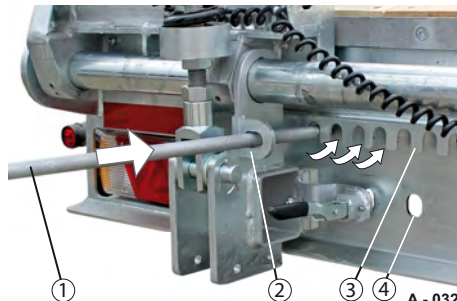

Fig. 84 Setting track width
- Insert the operating pole (Fig. 84/1) through the eye (Fig. 84/2).
- Using the operating pole, grip one notch (Fig. 84/3) after another and slide the ramp to the required position. Make sure that the spring lever can be secured in one of the next retaining holes (Fig. 84/4).
The spring lever engages in the retaining hole (Fig. 84/4).